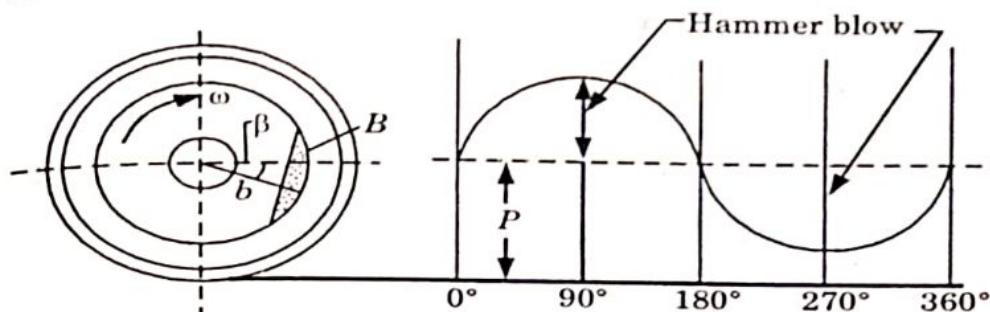

Fig. 4.9.3. Hammer blow.
4. The effect of hammer blow is to cause the variation in pressure between the wheel and the rail. The variation is shown in Fig. 4.9.3 for one revolution of the wheel.